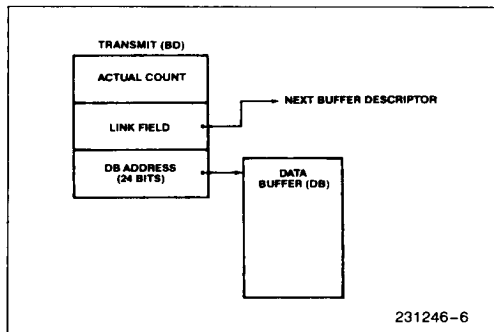

Figure 6. Data Buffer Descriptor and Data Buffer Structure
Message transmission is accomplished by using the Transmit command. A single Transmit command contains, as part of the command-specific parameters, the destination address and length field for the transmitted frame along with a pointer to a buffer area in memory containing the data portion of the frame. (See Figure 15.) The data field is contained in a memory data structure consisting of a Buffer Descriptor (BD) and Data Buffer (or a linked list of buffer descriptors and buffers) as shown in Figure 6. The BD contains a Link Field which points to the next BD on the list and a 24-bit address pointing to the Data Buffer itself. The length of the Data Buffer is specified by the Actual Count field of the BD.